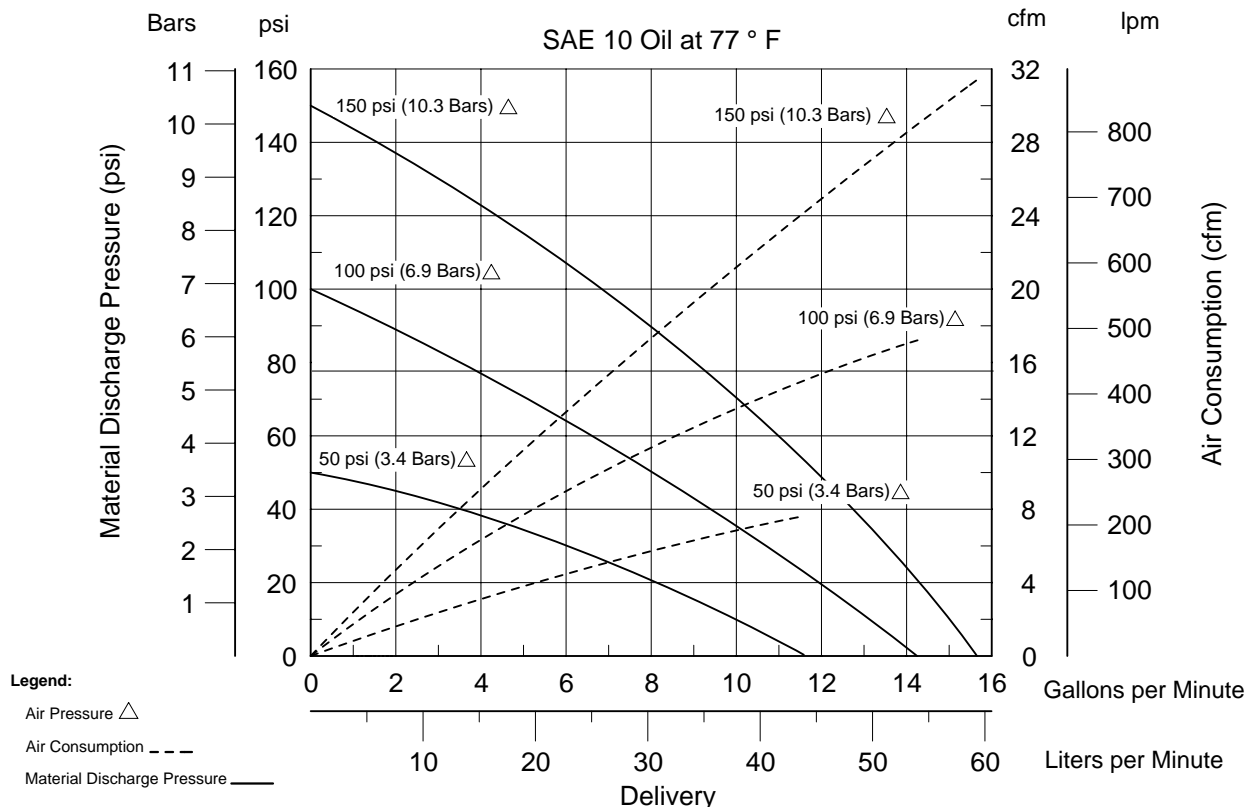

Figure 3 Delivery versus Discharge Pressure and Air Consumption
* For detailed information, refer to Figure 3 .